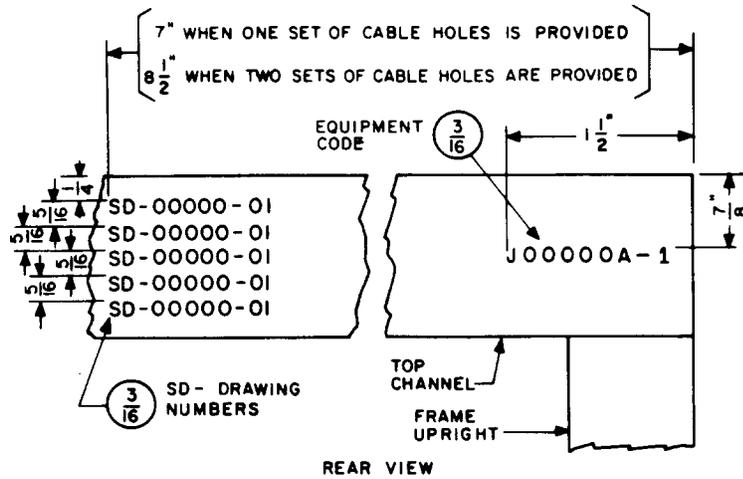

Fig. 1—Frame Equipment Code and SD- Drawing Numbers
- (h) To revise Fig. 1 to show SD- drawing number stamping.
- (h) Fig. 1, 2, 3, 21, 23, 35, and 36—revised
shall be stamped on the rear face of the top cross channel with 3/16-inch characters in ascending numerical order reading from top down. On multibay and multiframe equipments, SD-drawing numbers shall be located on bay 0 only. (See Fig. 1.) The SD- drawing numbers associated with the equipped frame, except SD- drawing numbers stamped on miscellaneous equipment units, shall be specified on the drawing.